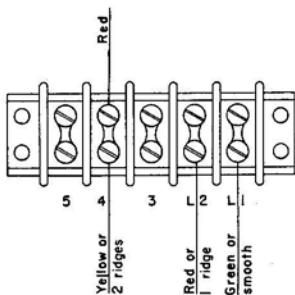

Figure 7.
FOR PARTY RUNG ON +LINE ("TIP"), connect ringer red lead to terminal 4, and connect line wires as shown in figure 7.
FOR PARTY RUNG ON +LINE ("TIP"), leave ringer red lead on terminal 4, and connect line wires as shown in figure 7.
**This model is never wired per figure 7. (Figure 7 applies to figures 9 thru 12, only.)